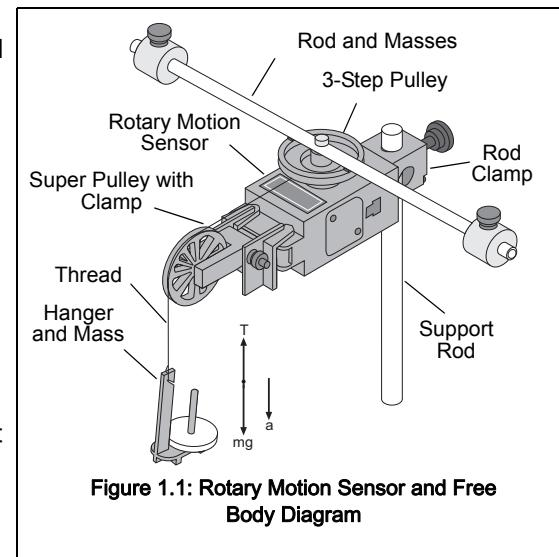

Figure 1.1: Rotary Motion Sensor and Free Body Diagram
(see Figure 1.1). Solving for the tension in the thread gives:
4. Mount the RMS on a support rod and connect it to a PASPORT-compatible interface. Make sure that the support rod does not interfere with the rotation of the rod and masses. See Figure 1.1.
6. Drape the thread over the Super Pulley such that the thread is in the groove of the pulley and the Mass Hanger hangs freely (see Figure 1.1).